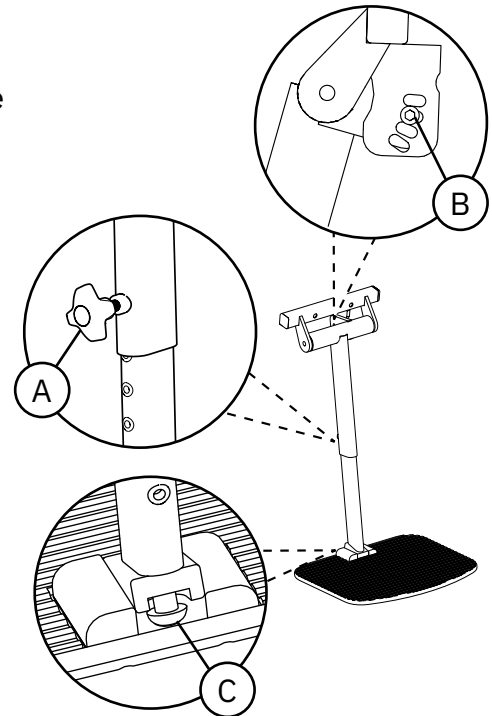

Figure 5.53. Centre-mounted leg support.
The centre leg support is adjustable in height (A), angle of leg support (B) and angle of footplate (C), see Figure 5.53.